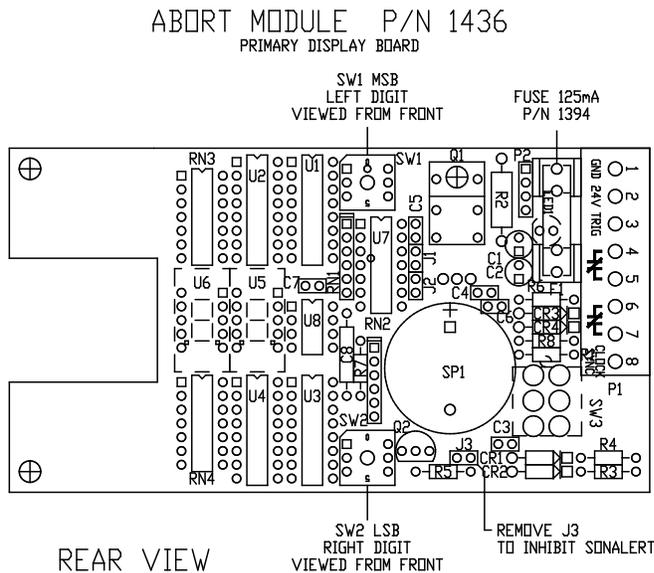

Figure 22. Abort Module P/N 1436 component view
The audible alarm will pulse every second during countdown. Remove J3 jumper if the audible tone is not required. Refer to Figure 22.
**Primary Display Board (Figure 22):** For systems utilizing a main tank circuit without a reserve tank. The timer can be set to a maximum of 99 seconds by adjusting SW1 and SW2. SW1 on the circuit board corresponds to the MOST SIGNIFICANT DIGIT and SW2 corresponds to the LEAST SIGNIFICANT DIGIT. Adjust the timer to the same time setting as the panel connected to the Abort Module. Example: If SW1 is set at 2 and SW2 is set at 5, the timing sequence will commence at 25 seconds and count down to zero, unless aborted.